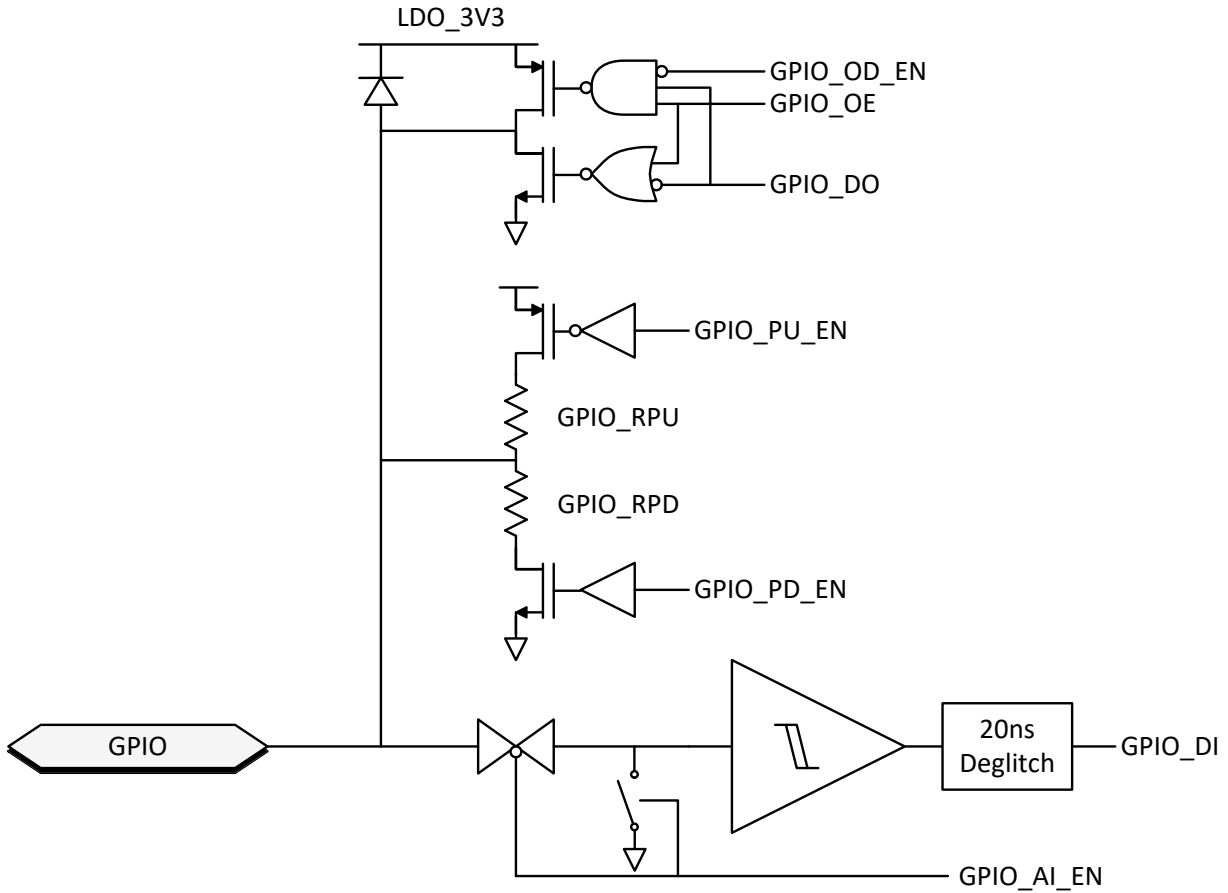

图 8-19. General GPIO Buffer
**图 8-19** shows the GPIO I/O buffer for all GPIO pins. GPIO pins can be mapped to USB Type-C, USB PD, and application-specific events to control other ICs, interrupt a host processor, or receive input from another IC. This buffer is configurable to be a push-pull output, a weak push-pull, or open drain output. When configured as an input, the signal can be a de-glitched digital input. The push-pull output is a simple CMOS output with independent pull-down control allowing open-drain connections. The weak push-pull is also a CMOS output, but with GPIO_RPU resistance in series with the drain. The supply voltage to the output buffer is LDO_3V3 and LDO_1V8 to the input buffer. When interfacing with non 3.3-V I/O devices the output buffer may be configured as an open drain output and an external pull-up resistor attached to the GPIO pin. The pull-up and pull-down output drivers are independently controlled from the input and are enabled or disabled via application code in the digital core.